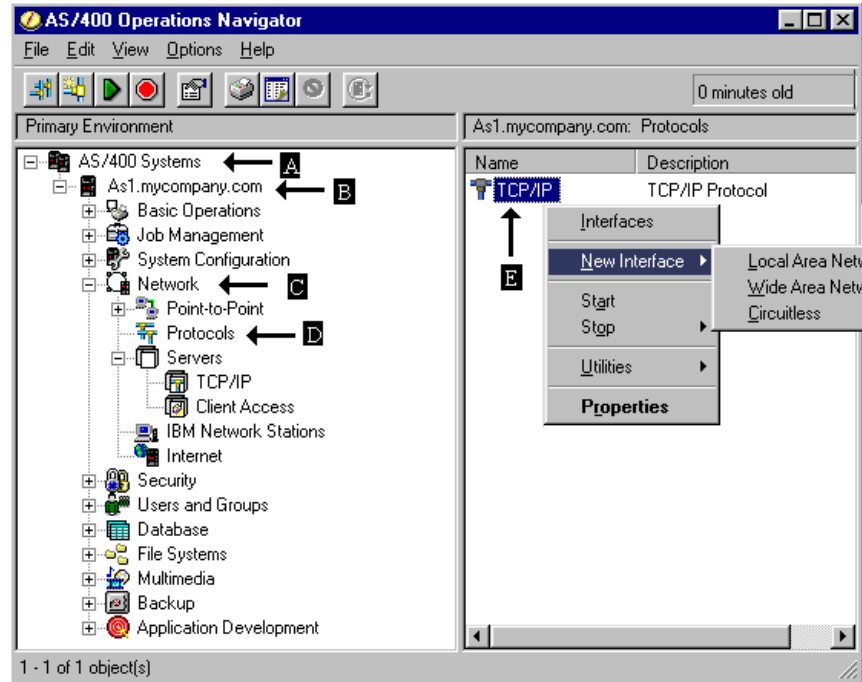
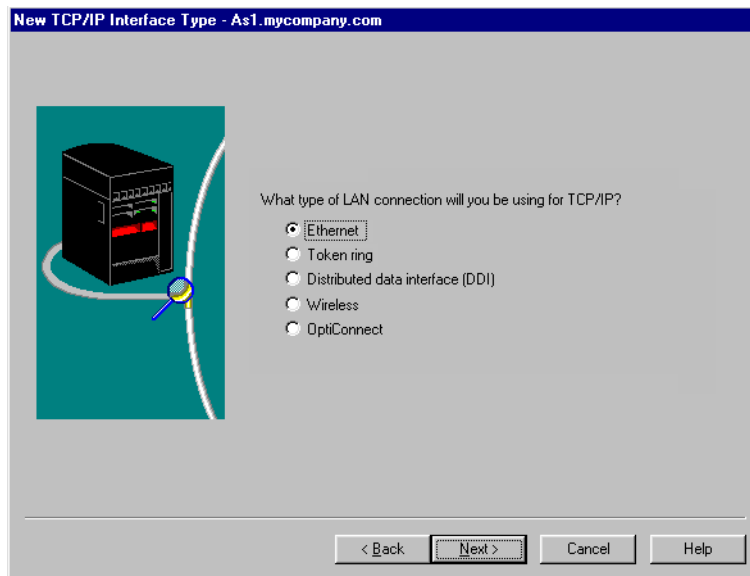

Figure 309. Operations Navigator protocols
Figure 310. Select Interface Type
1. Start Operations Navigator by clicking **Start->Programs->IBM AS400 Client Access->AS/400 Operations Navigator**. The AS/400 Operations Navigator window appears (Figure 309).
2. Double-click the **AS/400 Systems** icon (A). It gives you a list of all the AS/400 systems that you can access.
3. Double-click the AS/400 system (AS1) (B) that you want to configure.
4. Double-click **Networks** (C).
5. Double-click **Protocols** (D).
6. Right-click **TCP/IP** (E) in the right panel to see the context menu (Figure 309).
2. Select **New Interface** from the context menu (Figure 309). Depending on your version and release, you may see the next selection menu Local Area Network, Wide Area Network, or Circuitless. Click **Local Area Network**. You should now see the first window of the TCP/IP wizard interface. Click **Next**. The New TCP/IP Interface Type window appears (Figure 310 on page 538).